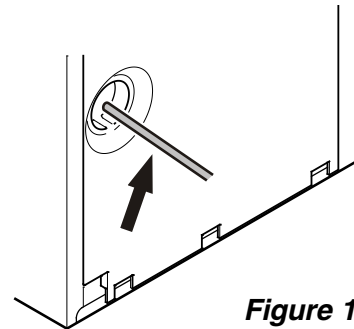

Figure 14
2. Insert the water supply line into it's intended opening at the back of the appliance (**Figure 14**).